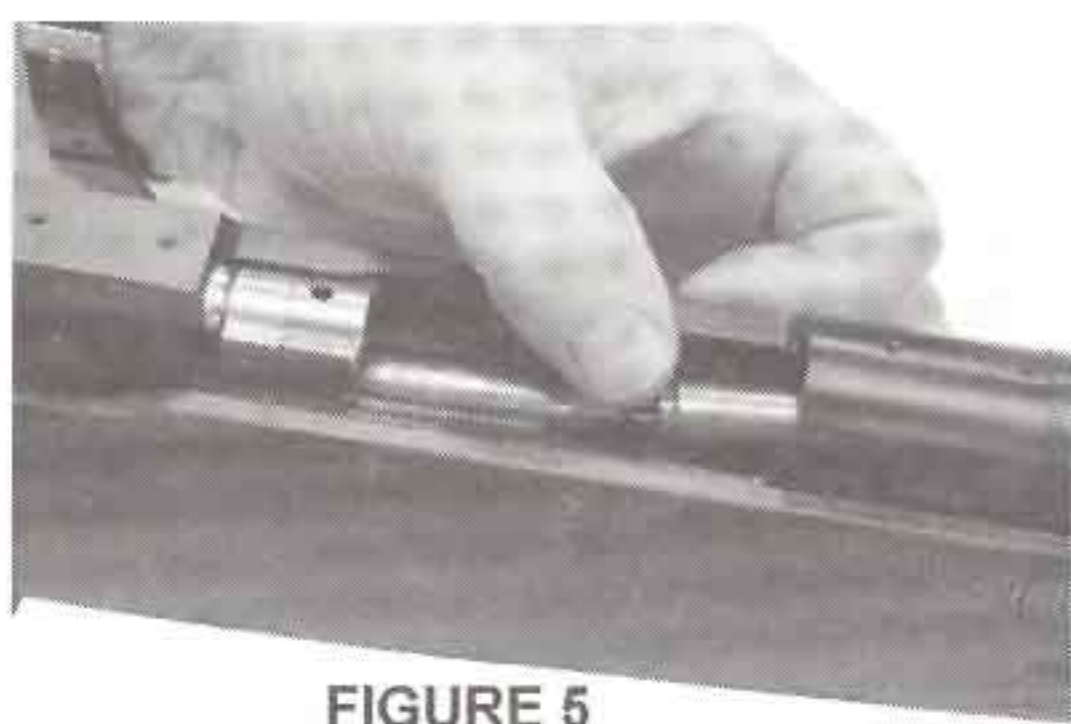

FIGURE 5
1. With the muzzle pointed in a safe direction, insert a cartridge into the chamber as shown in FIGURE 5.